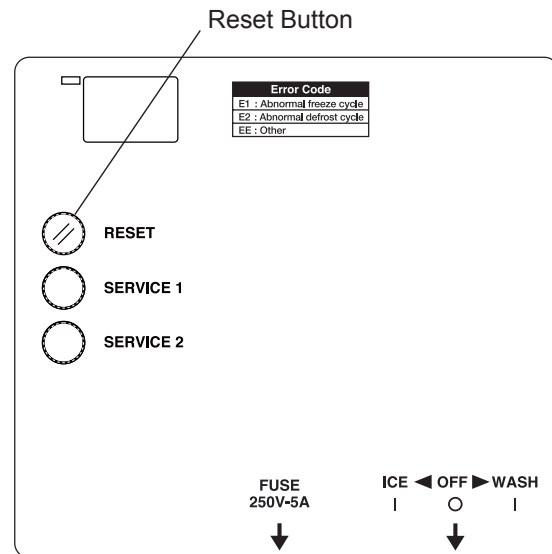

Fig. 7
6) Press the reset button. See Fig. 7. The water tank will start to open.